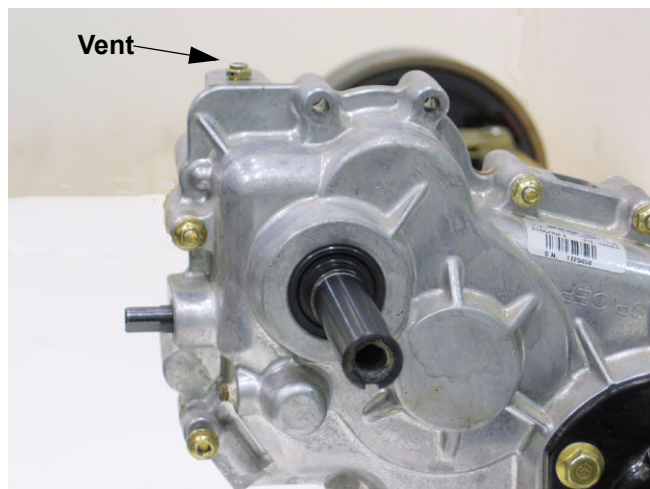

Figure 10.4
- 10.4. The vent valve is on the top of the right-side housing. Remove it using a 7/16" wrench. See Figure 10.4.